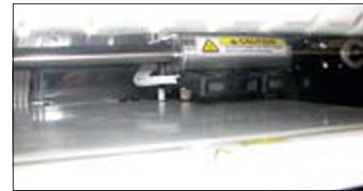

Fig. 30
2. Using the “Down” arrow, lower the printpad down by 0.1 from the print jet tip. Click on the Control button, the next screen will allow you to save the setting. Click on the check mark to save or the X to cancel the setting. (Fig. 30)